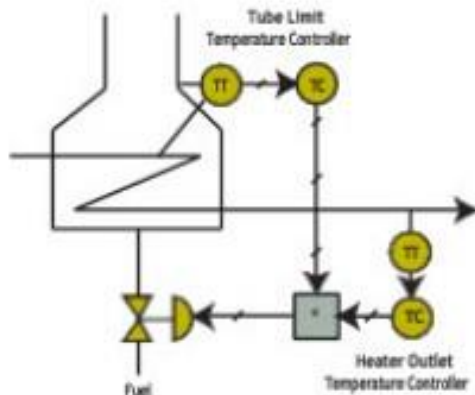

Figure 1 (from Wade, H. L. "Under the Hood of Override Control", Part I, CONTROL, Vol. XVII, No. 12, December, 2005, pp43-45)
Figure 1, from Harold Wade's CONTROL magazine article (December 2005), depicts a fired furnace heating a process fluid. The primary controller is the process fluid temperature controller (TC) in the lower right. If the process fluid is not hot enough, then the controller sends a signal to open the fail-close (air-to-open) flow control valve (FCV). However, the temperature of the internals in the heater are of possible concern. The TC in the upper right monitors tube temperature; and if it is too high, that override controller sends a low signal to the valve to reduce the tube T. The select block "<" executes a less-than test, selects the lower of the two signals, and sends the lower to the FCV.
We'll use some numbers to explain controller interaction. To follow this story, you might want to place the T and manipulated variable (MV) values on Figure 1. The process T set point (SP) is 430°F. The process T is at the set point of 430°F, and the primary controller output, MV, is 55%. At this firing rate, the tube T is 550°F which is below the 600°F safety limit. Because of this, the override/safety/secondary controller thinks "The temperature is below my set point. We need more fire" and integrates up to an output of 100%. Since 55% is less than 100% the select block chooses 55% and tells the valve "Go to 55% open." At 55% open, the process
1. Figure 1 has two controllers on the process. An alternate is to have only one controller, the process temperature controller in the lower right, and when the tube T violates a limit place the primary controller in MAN and override the signal to the valve with a lower signal to the valve. But what signal value? If too large then the tube T remains excessive. If too small then the tube T is well below the safety limit, but the process T remains much lower than it could be.
2. We'd like the process T to remain as close to the set point as possible. So, keep the two controllers as shown in Figure 1, and select which controller sends its signal to the valve. If the tube T is below the limit, place the auxiliary controller in MAN and use the primary controller in AUTO. When the tube T exceeds the limit, place the primary controller in MAN and the auxiliary controller in AUTO. If the controllers are properly iniitalized in